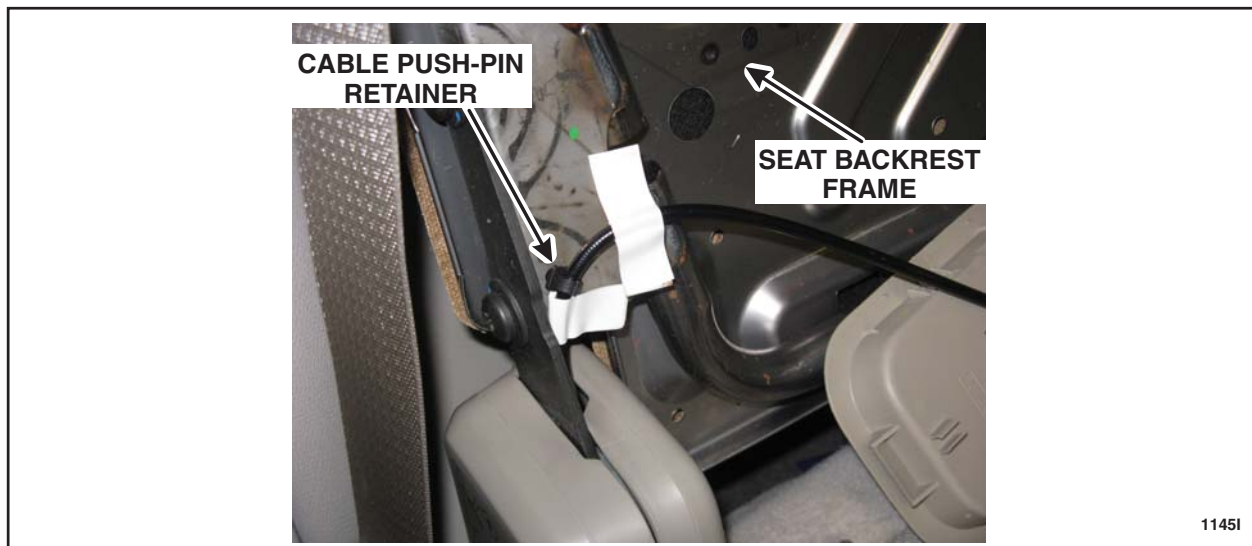

FIGURE 2
4. Disconnect the cable push-pin retainer from the seat backrest frame. See Figure 2.
12. Connect the cable push-pin retainer to the seat backrest frame. See Figure 2, on Page 5.